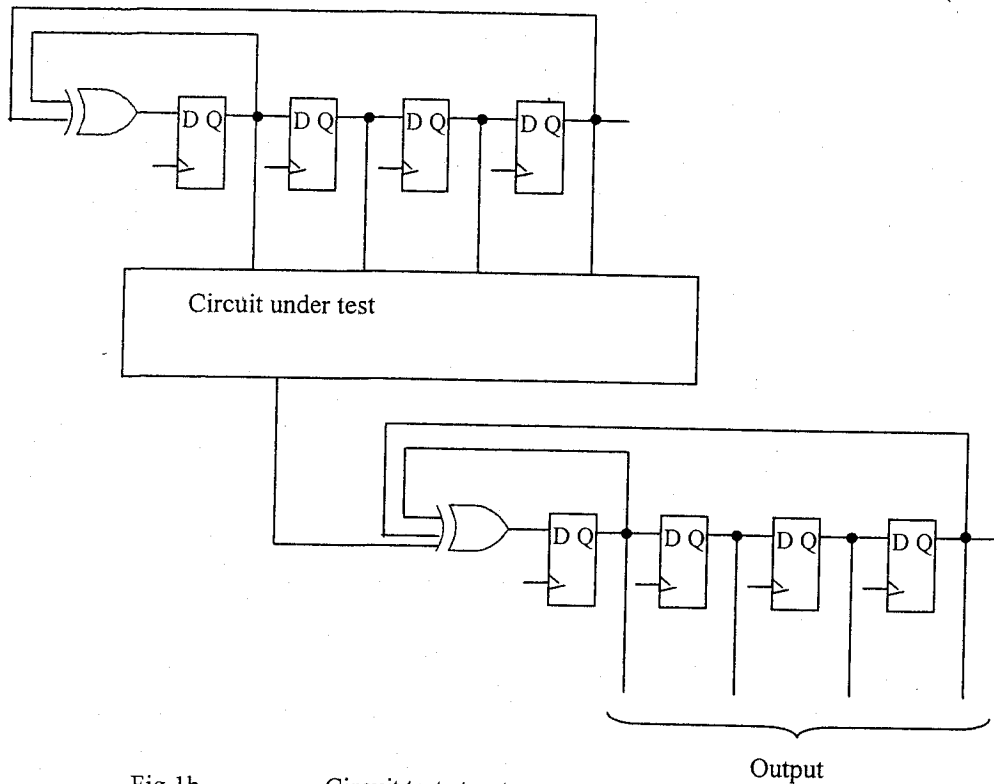

Fig 1b Circuit test structure
- g) Explain the operation of each part of the circuit test structure (figure 1b) and reason for its usage. (3 marks)